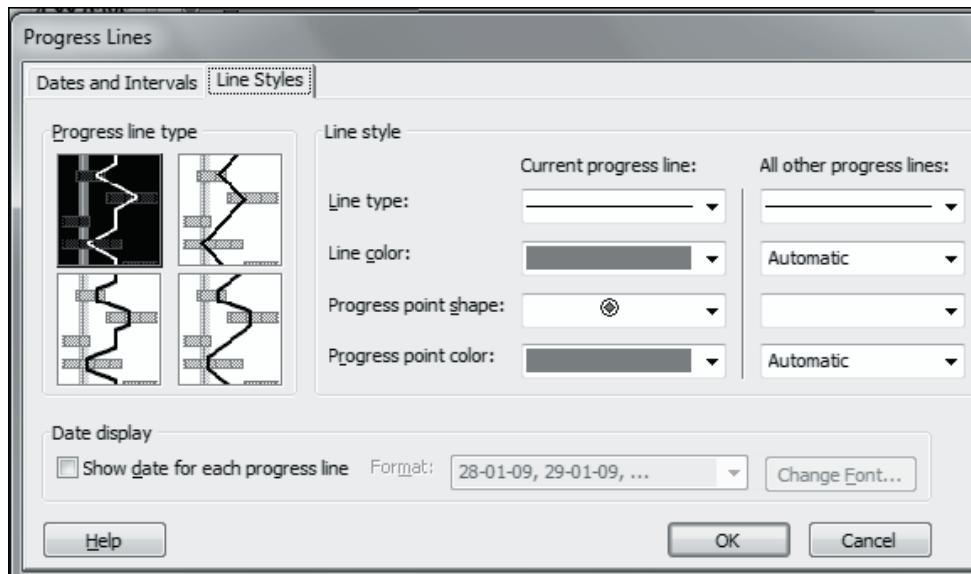

Figure 11.11: Line Styles Tab of Progress Lines Dialog Box
2. Click the **Line Styles** tab, to display the formatting options as shown in figure 11.11.